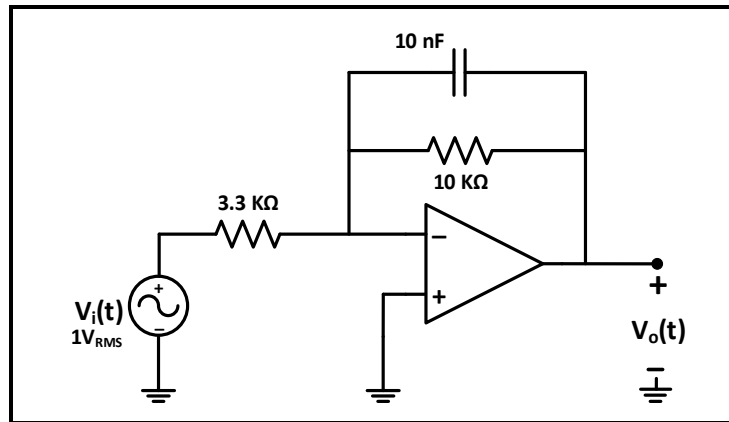

Figure 10.5: First order Active Low Pass Filter
1. Calculate the cut-off frequencies for the low pass and high pass filter circuits shown in Figure 10.5, 10.6, 10.7, and 10.8.
1. Connect the circuit of Figure 10.5, with a sinusoidal input voltage at 1 V_{RMS} .